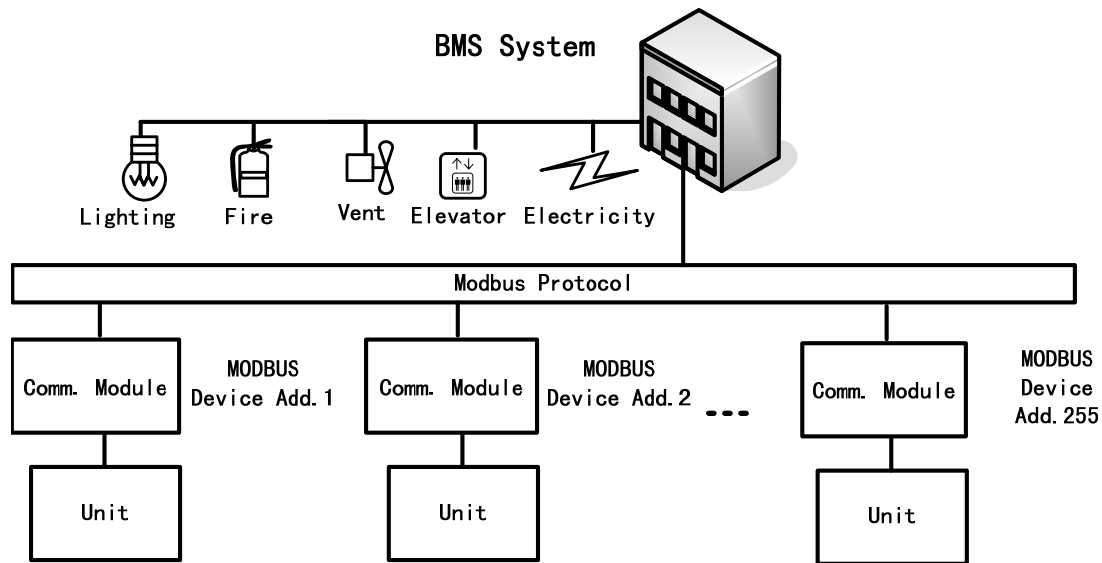

Fig.1: Topological Structure Consisting of Max.255 Communication Modules
- 1) As shown in Fig. 1, it can be seen that the whole network consists of two parts: units network and Modbus network, which are connected through the communication module by which the communication data can be interchanged.